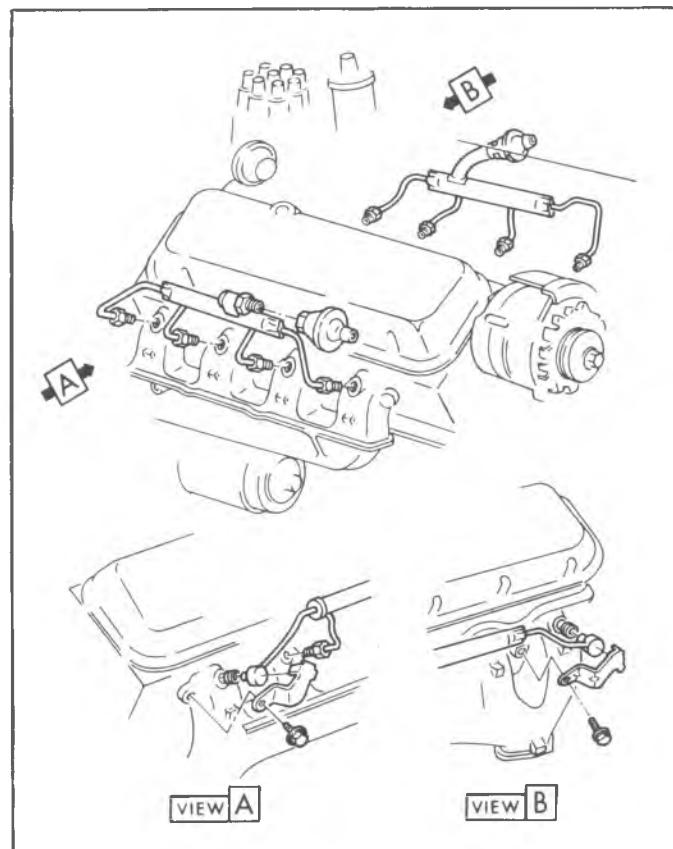

Fig. 13f—Air Injection Tubes (Mark IV V8)
One check valve is used on each combustion pipe assembly. The combustion pipe assembly(s) route the air pump output to each cylinder in the area of the exhaust valves. L-6 engines used one (1) combustion pipe assembly and one (1) check valve. V-8 engines use two combustion pipe assemblies (one per bank) and two check valves (fig. 13f).